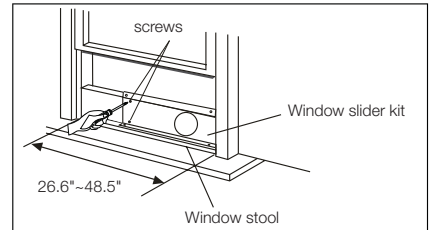
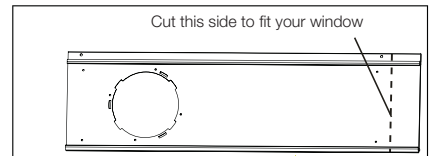
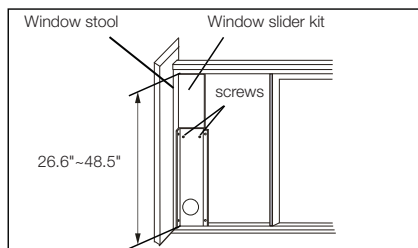

Fig. 13
Fig. 14
Fig. 19
2. Open the window sash and place the window slider kit on the window stool (Fig. 13). Attach the window slider kit to the window stool. Adjust the length of the window slider kit according to the width of window. Screw down the two screws on the window slider kit. See Fig.13. Cut the adjustable window slider kit if the width of window is less than 26.6 inches (Fig. 14).
2. Open the window sash and place the window slider kit on the window stool. See Fig.19. Attach the window slider kit to the window stool. Adjust the length of the window slider kit according to the height of window. Screw down the two screws on the window slider kit. See Fig.19. Cut the adjustable window slider kit if the height of window is less than 26.6 inches (Fig. 14).